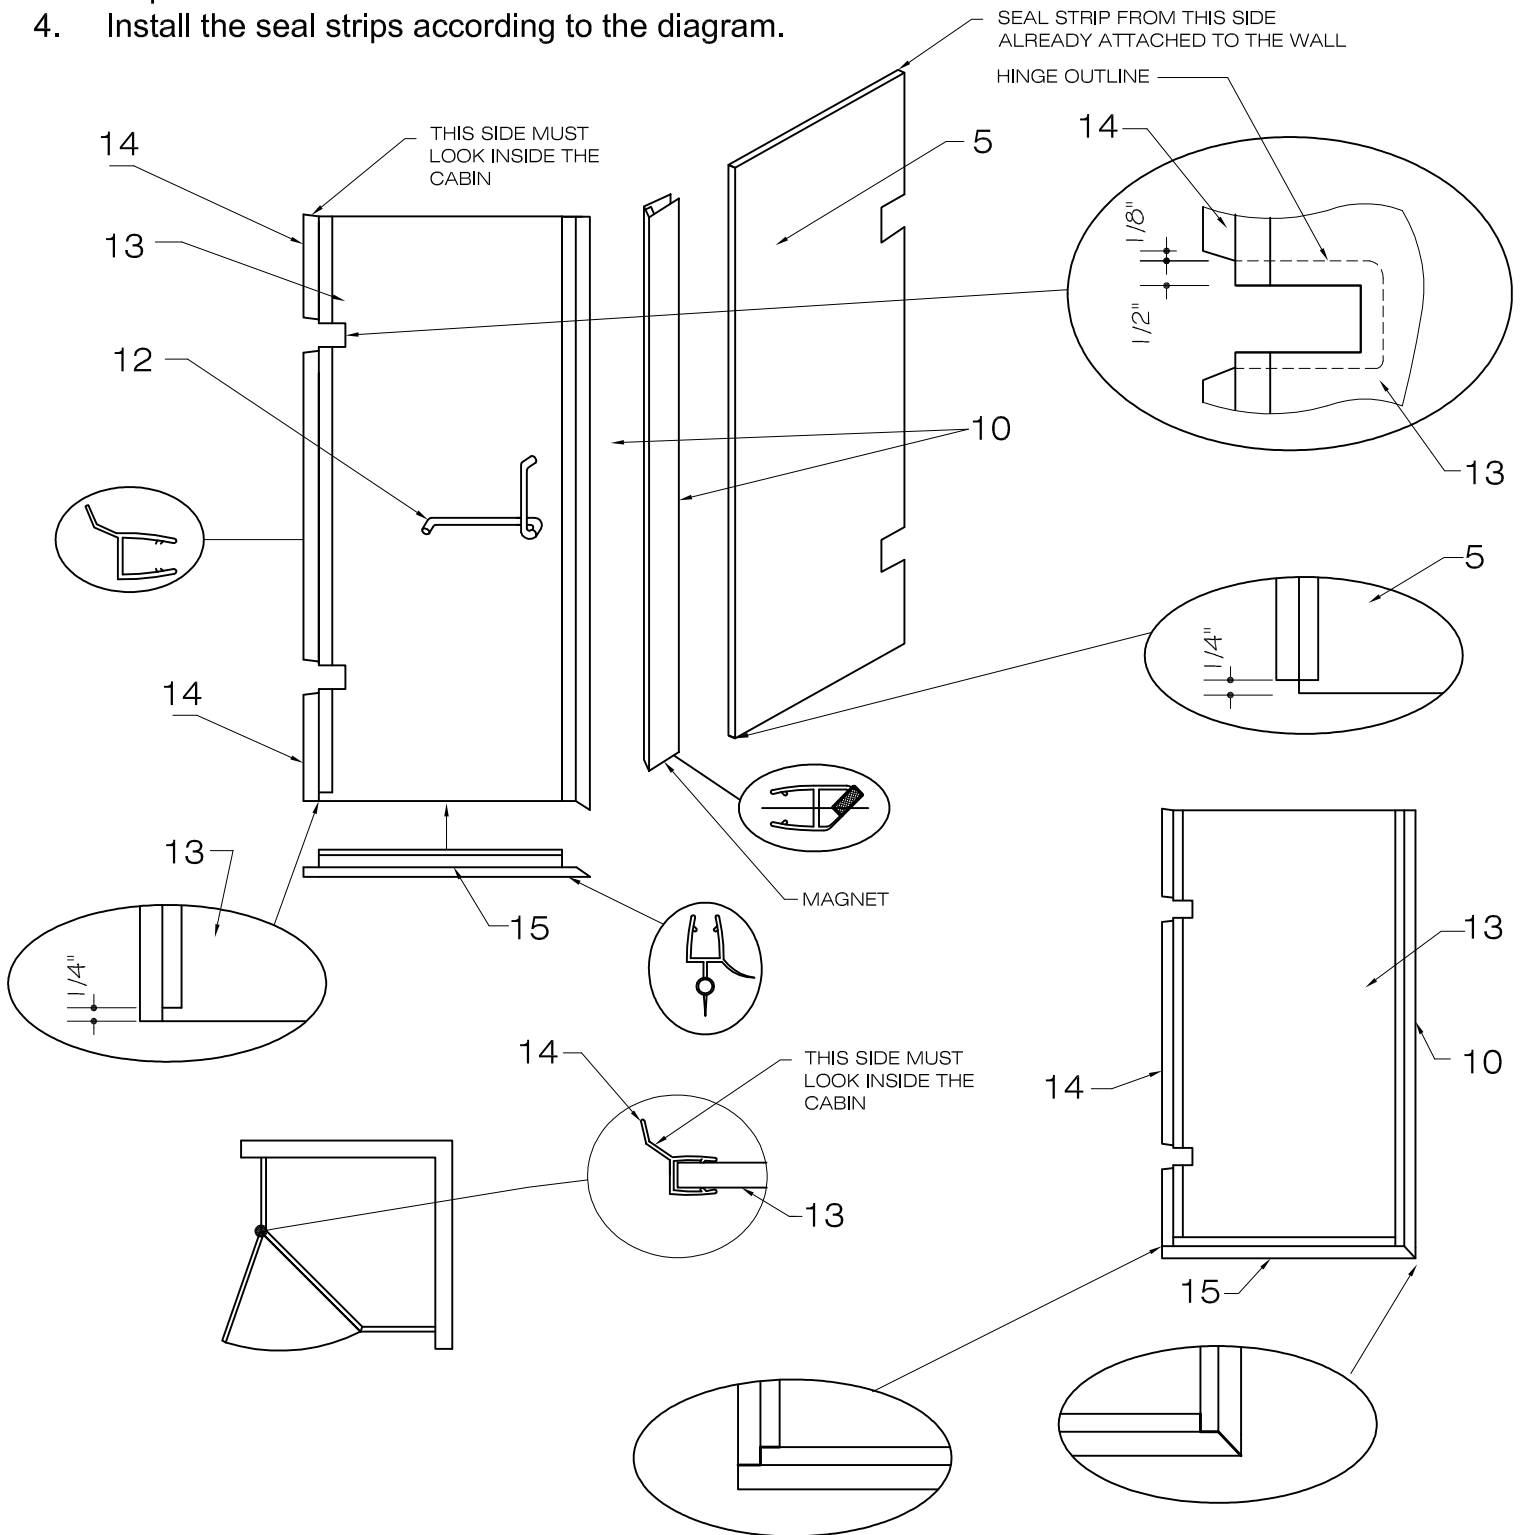

FIG.7 SEAL STRIP INSTALLATION DIAGRAM
2. Cut the seal strips according to the diagram. [SEE FIG.7]